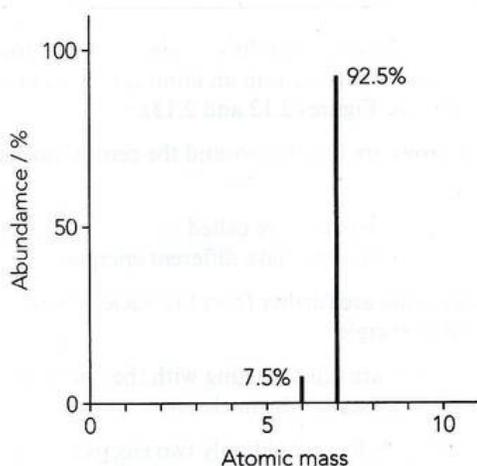

Figure 2.9: Isotopes of lithium.
Lithium has two isotopes, ${}^6\text{Li}$ and ${}^7\text{Li}$. The relative abundance of these two isotopes is shown in Figure 2.9.
Step 1. Look at Figure 2.9. The graph shows you that the lithium sample consists of 7.5% lithium-6 and 92.5% lithium-7.